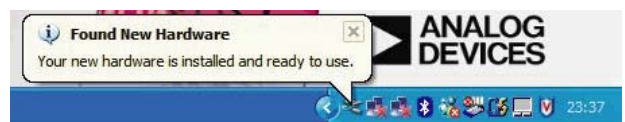

Figure 10. New Hardware Is Ready to Use Message
7. The **Found New Hardware** message appears, alerting you that your new hardware is installed and ready to use (see Figure 10).